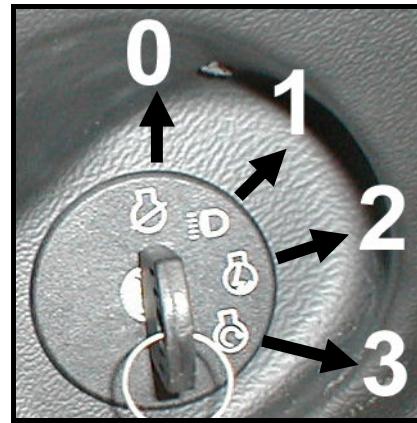

Fig.8
4. **During starting, take care to correctly insert the key to prevent its breaking!** Insert the key into the ignition box (Fig.8) and **turn it into position "1"** (the current circuit is activated)
### Description of Fig. 8.
According to Fig.8 and the description in Fig.8.